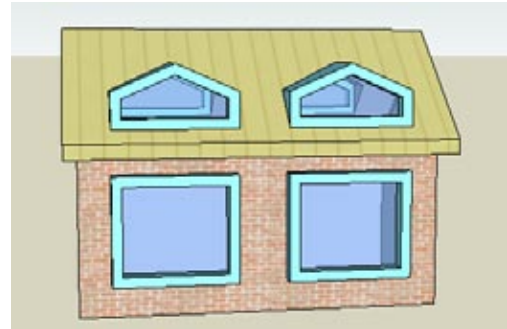

Figure 5-52
8. Use Intersect with Model to cut roof holes, and your four dormers are complete (Figure 5-52).